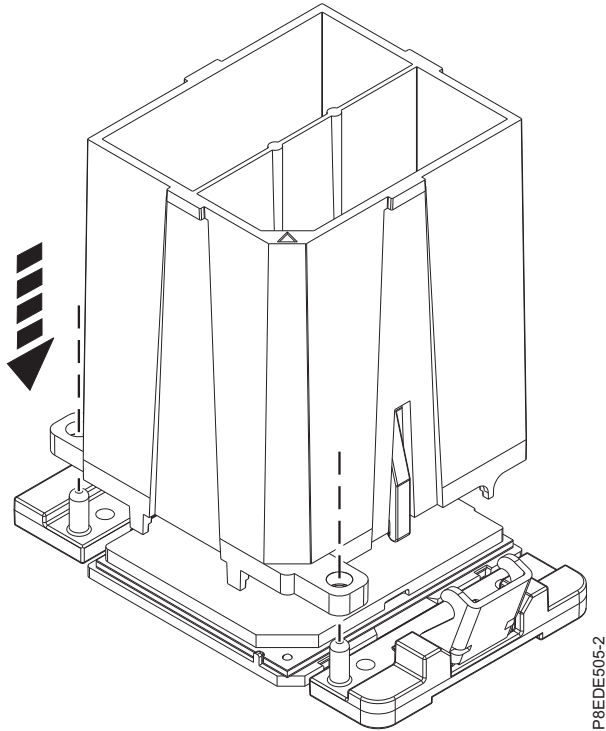

Figure 80. Installing the system processor module
- a. Lower the tool and system processor module onto the socket, ensuring that the two guide pins are inserted into the alignment holes on each side of the tool, as shown in Figure 80 on page 81.